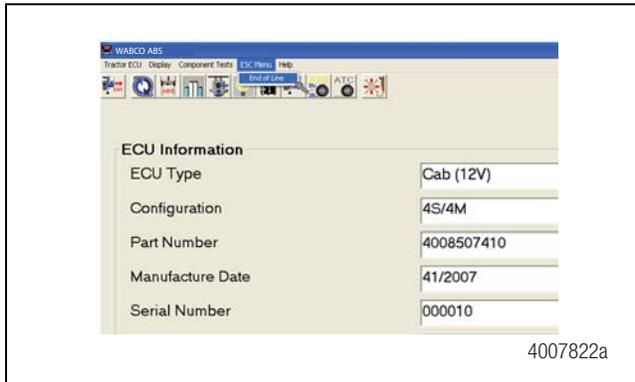

Figure 12
- To access SAS Calibration, click on the ESC Menu from the bar menu at the initial screen. A drop box will illuminate. Select the "End of Line" option. Figure 12.